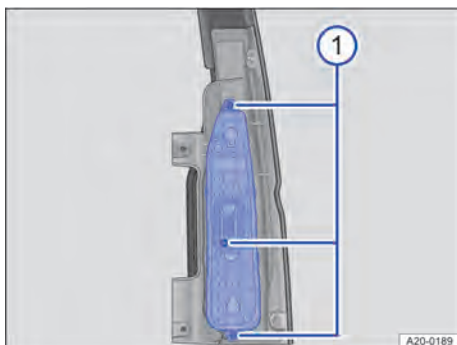

Fig. 175 On the tail light cluster: removing the bulb holder.
2. Undo three screws with the screwdriver → Fig. 175 ①. Insert a suitable interchangeable blade if necessary.
3. Remove the bulb holder → Fig. 175.
1. Carefully insert the bulb holder into the tail light cluster → Fig. 175.
2. Screw the bulb holder onto the tail light cluster with the three screws → Fig. 175 ①.